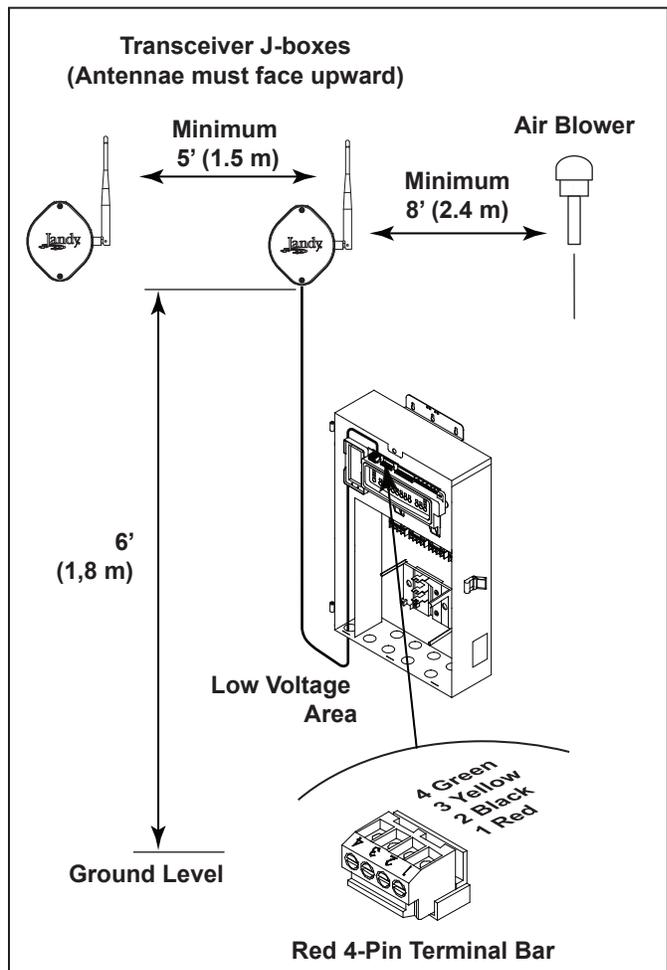

Figure 13. Outdoor Transceiver J-box Installation
2. Mount the outdoor transceiver J-box at least six (6) feet (1,8 m) above the ground at least eight (8) feet (2,4 m) from any motor or air blowers that may be in the vicinity, and at least five (5) feet (1,5 m) away from other transceiver J-boxes.
**NOTE** To improve performance of the transceiver, mount the J-box more than six (6) feet (1,8 m) above the ground.
5. Pull cable through the knockout with the Heyco fitting and into the low voltage compartment. See Figure 13.
7. Strip each wire ¼" (6 mm) and connect to the red, 4-pin connector on the power center PCB. A multiplex kit (part number 6584) may be required if there are more than two (2) cables running to a red, 4-pin connector on the PCB.